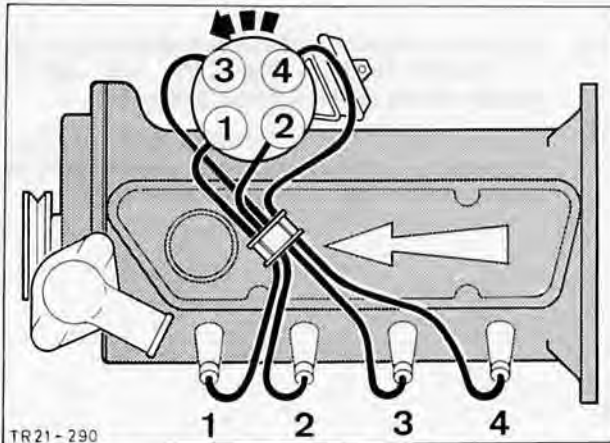

Fig. 135. Spark plug HT lead arrangement (firing order)
21. Refit rocker cover tightening bolts to specified torque, fit HT leads, Fig. 135, and refit air cleaner.